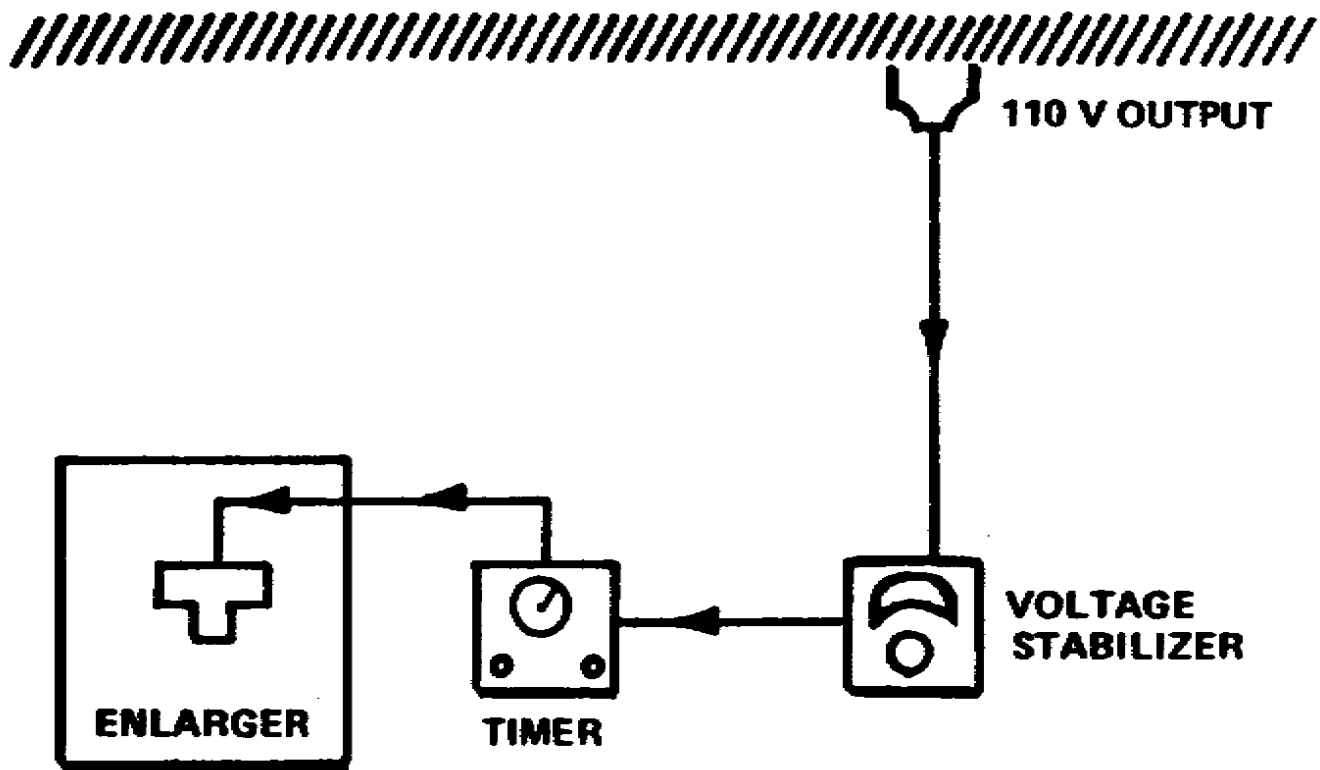

Figure 1-3. Typical enlarger setup
a. Enlarger. Any enlarger that is equipped with a tungsten lamp, heat-absorbing glass, ultraviolet absorption filter (CP2B), and a means to hold printing filters is acceptable for making color prints. The enlarger should have a means of holding the filters between the lamp and the negative. Color printing (CP) filters are designed to be used in this position. If you use filters between the lens and the printing paper, you must use color-compensating (CC) filters. Since the projected image is passing through the filter, the highest quality filter must be used; CC filters are very high quality.
b. Enlargers designed specifically for color printing have two distinct advantages, a diffused light source, and dial-in filters. A diffused light source enlarger will minimize negative defects such as dust and scratches. Dial-in filters make it much easier to alter the filter pack than trying to work with separate sheets of filter material. Figure 1-3 shows a typical enlarger setup.